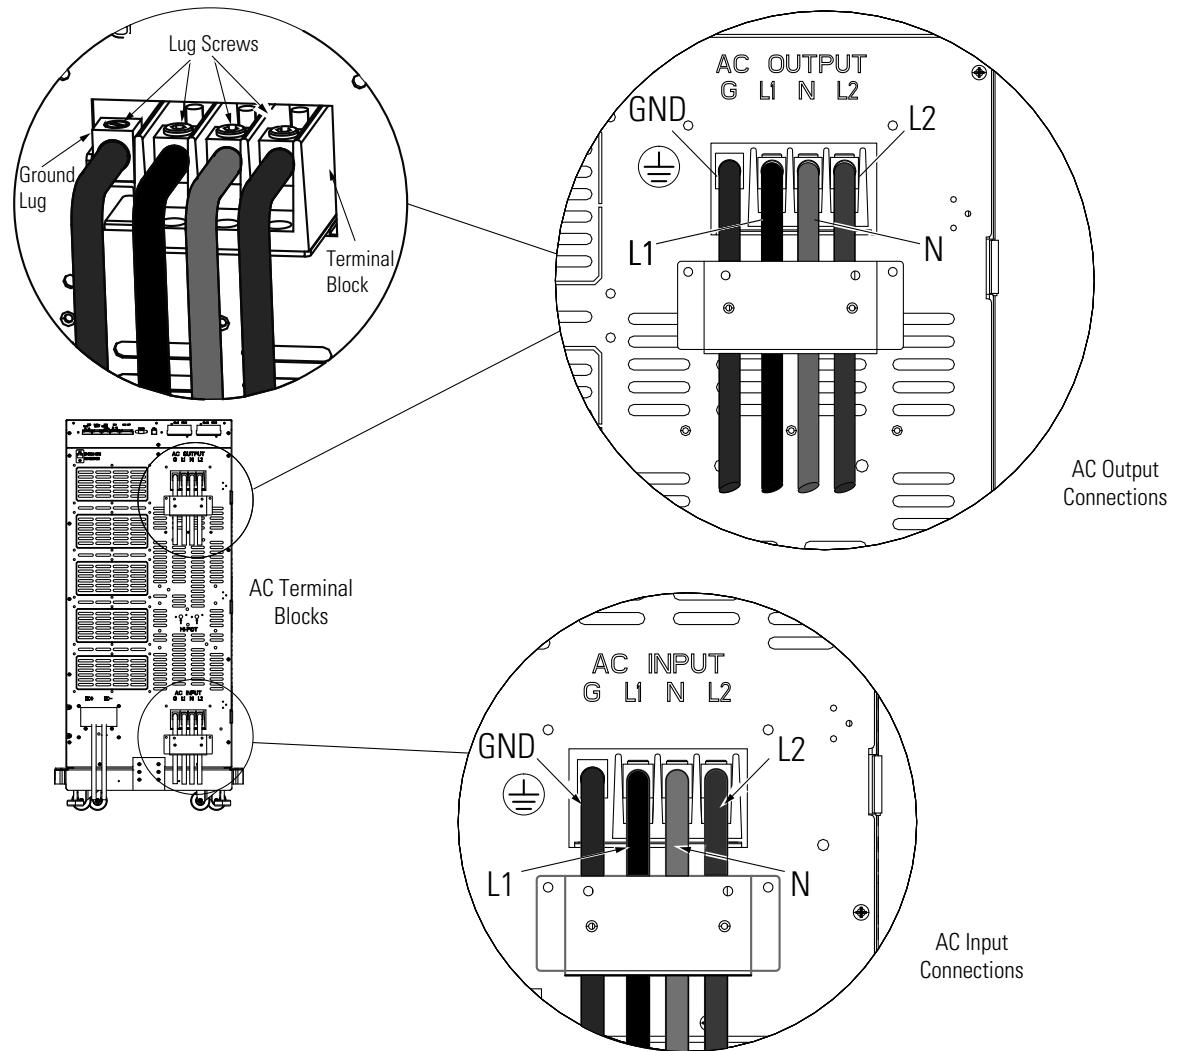

Figure 17. UPS Input and Output Terminals
7. Make the UPS input and output connections to the terminal blocks on the rear panel (see Figure 17):